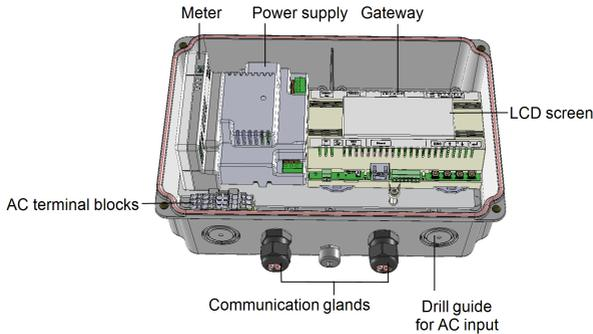

Figure 2: Energy Meter with Cellular Connection- external interfaces
Refer to *Figure 2*.
- **Drill guide for AC:** used to feed the meter power supply as described in *Connecting the Meter to AC* on page 15. The AC power cable is threaded through the designated drill guide, as shown in *Figure 2*.
Refer to *Figure 2*. The next sections describe the following internal components: